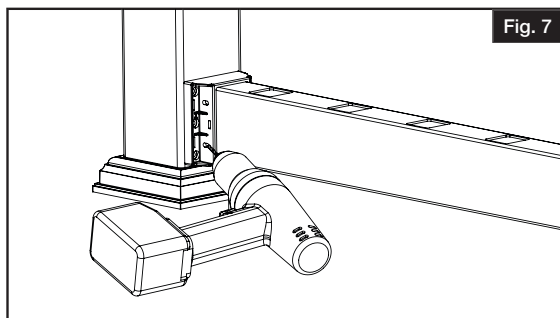

Fig. 7
- Ensure bracket is centered to post. Then, using 1/8" drill bit, pre-drill first bottom bracket screw hole through bracket hole and post (use the four outside corner holes) (Fig. 7).